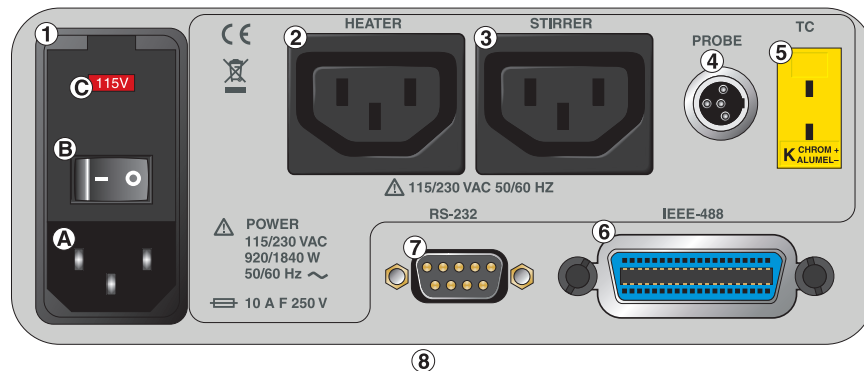

Figure 5. Back panel features
The following features are found on the rear panel of the controller: (1) power entry module, (2) the solid state relay, (3) the heater power connector, (4) the stirrer power connector, (5) the control probe input connector, (6) the cutout thermocouple connector, (7) the optional IEEE-488 (GPIB) interface connector, (8) the RS-232 interface connector, and (9) the serial number label. (see Figure 5)
**The output voltage to the heater and stirrer sockets (Items 3 and 4 in Figure 5) is the same as the input voltage of the power entry module (Item 1 in Figure 5).**
(1) The power entry module includes: (A) the IEC power line connector, (B) the ON/OFF switch, (C) the voltage selector with indicator window and two fuses. The unit is shipped from the factory with 10 A 250 V F fuses. Additional information on fuse usage is in Section 1.3 and Section 4.6.
(C) The power entry module is provided with a dual voltage selector integrated into the fuse holder. The controller has been specially designed to allow either 115 or 230 VAC operation. The voltage indicator window notifies the user of the voltage selected. See Figure 5.